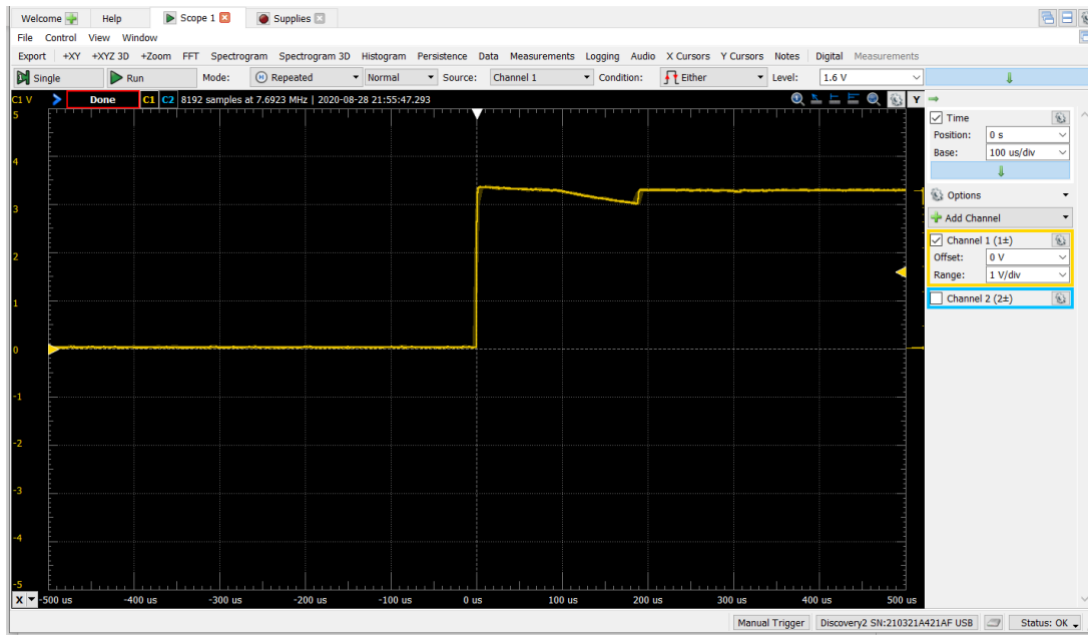

Figure 3-17: Capacitor charging curve (very short charging time)
Step 4: Change the time base of your oscilloscope to 100 μ s/division. **Flip the switch to its “on” state.** (Now you are charging up the capacitor.) Now you should see near-instantaneous voltage change from 0 V to 3.3 V (Figure 3-17). NOTE: the switch may exhibit *contact bounce*, which will be evident on the oscilloscope (something else that a DMM will not display). This is natural and, in this case, harmless. Contact bounce can be a real problem. One can find numerous contact debouncing circuits online.